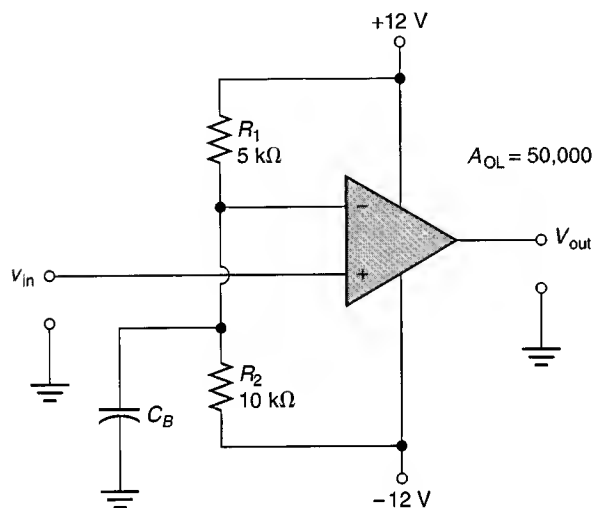

FIGURE 16.36
- Determine the value of V_{ref} for the comparator in Figure 16.36.